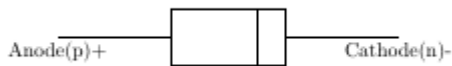

Fig 1: Structure of p-n Junction Diode
- (2) Dynamic or AC Resistance: It is the resistance offered by the diode to the flow of AC through it when we connect it in a circuit which has an AC voltage source as an active circuit element. Mathematically the dynamic resistance is given as the ratio of change in voltage applied across the diode to the resulting change in the current flowing through it. This is shown by the slope-indicating red solid lines in Figure 1 and is expressed as:
can experience the flow of minority carriers through the device. Due to this current flow, the diode exhibits reverse resistance characteristic which is shown by the purple dotted line in Figure 1. The mathematical expression for the same is similar to that for the forward resistance and is given by